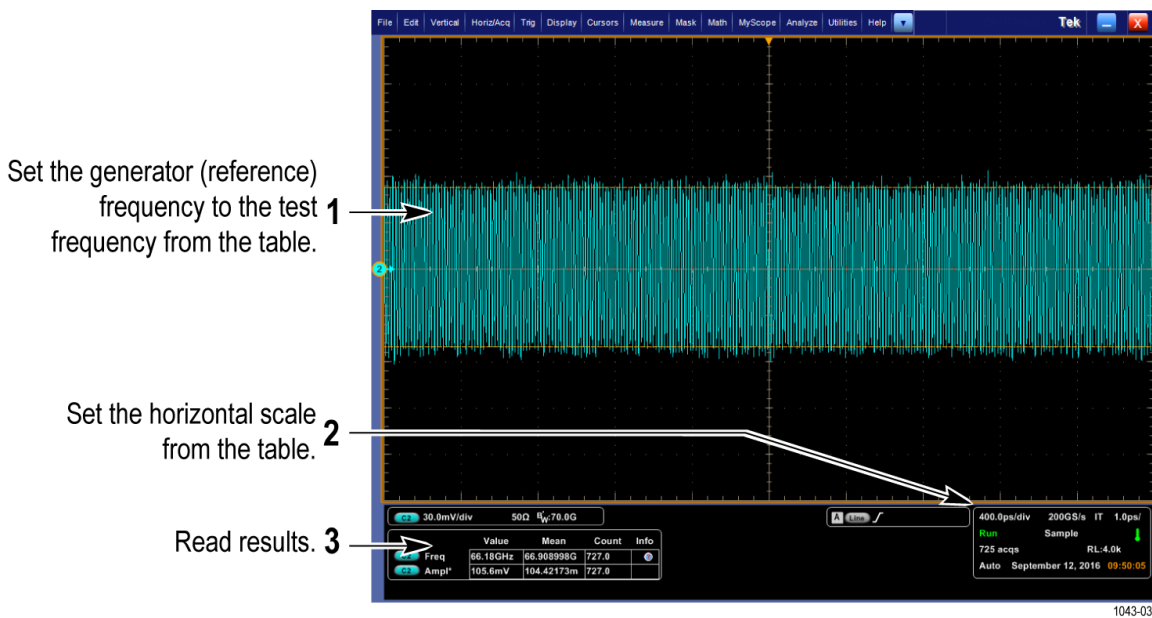

Figure 21: Measurement of analog bandwidth
- Read the results at the Chx Amplitude mean readout, which will automatically measure the amplitude of the test signal. (See Figure 21: Measurement of analog bandwidth on page 124.)